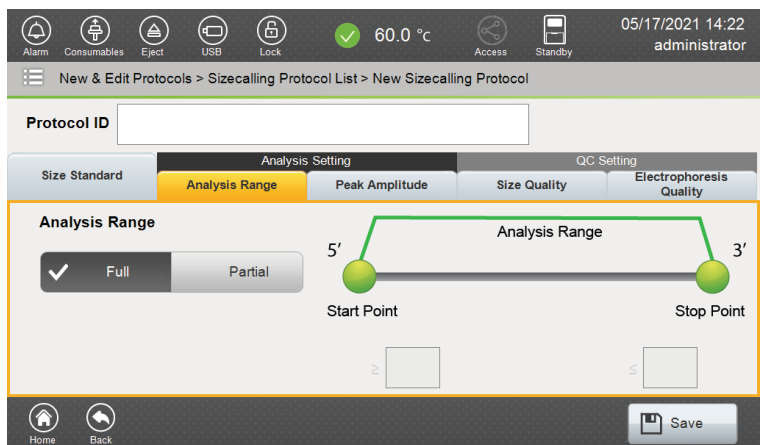
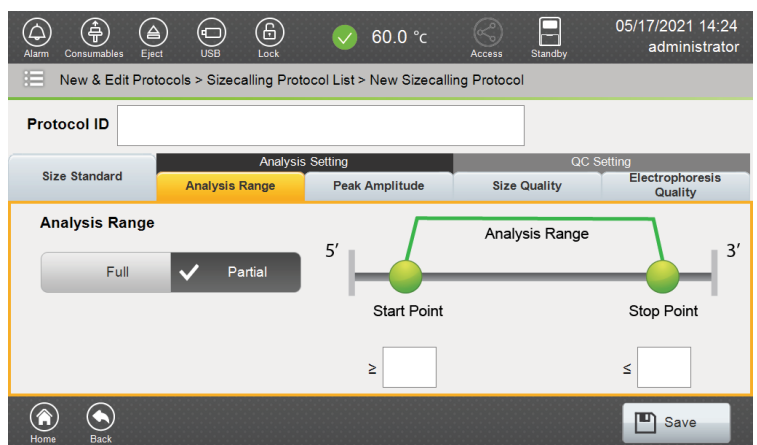

Figure 130. Full 'Analysis Range' tab.
Figure 131. Partial 'Analysis Range' view.
Analysis Range	<p>Defines the range in scan numbers/data points from which to process the data for peak detection.</p> <ul style="list-style-type: none"> • Full: Analyzes the entire range from beginning to end of the collection process, including the primer peak (Figure 130). • Partial: Allows the user to define the start and end points of the analysis range in scan number/data points using the fields in the 'Analysis Range' tab (Figure 131). The data point range allowed by software for Start Point and Stop Point is 1 to 32767. The numerical value for Start Point must always be lower than the numerical value entered for Stop Point (Figure 131). <p>Note: Data points outside of the specified analysis range are not analyzed. Therefore, all of the size standard peaks expected for the Sizecalling Protocol used must fall within the start and stop points selected when choosing partial range; otherwise, a failing size quality will be obtained.</p>
5. Select the 'Analysis Range' tab to reveal the Analysis Range (Figure 130).
6. The default setting is full range. Partial range analysis can be enabled by selecting **Partial**, at which time you are prompted to enter values in bases for the start and stop points for partial range analysis (Figure 131). Enter a Start Point, in data points, after the primer peak and before the first required size standard peak. Enter a Stop Point after the last required size standard fragment. View raw data from previous runs (see Section 6.1) to determine the appropriate start and stop points.